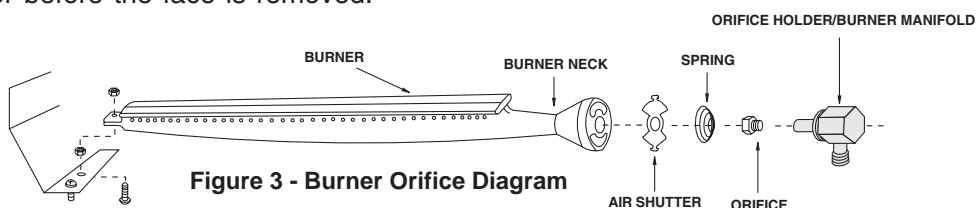

Figure 3 - Burner Orifice Diagram
**f.** After checking orifice drill size, install the air shutter spring and the air shutter over the orifice holder fitting, between the burner and the pipe manifold, in the order and position shown in Figure 3.
Fire Magic burners are constructed of heavy-duty cast stainless steel (Cast Brass and Porcelainized Cast Iron Burners are also available) and will withstand many years of outdoor use, if ordinary precautions are taken. Once or twice a year inspect the burners and determine if scale is building up excessively. Burners can be removed and scraped to remove debris or scale from ports. Spray cast iron with vegetable oil occasionally to inhibit oxidation. Replace burners immediately if they show any signs of weak or thin walls. Refer to the bottom of page 4, Figure 3 for installing burners.